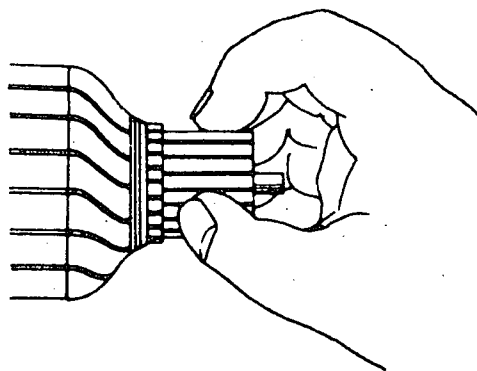

Fig. 2
- e) Visually and manually check the state of the commutator (fig. 2).